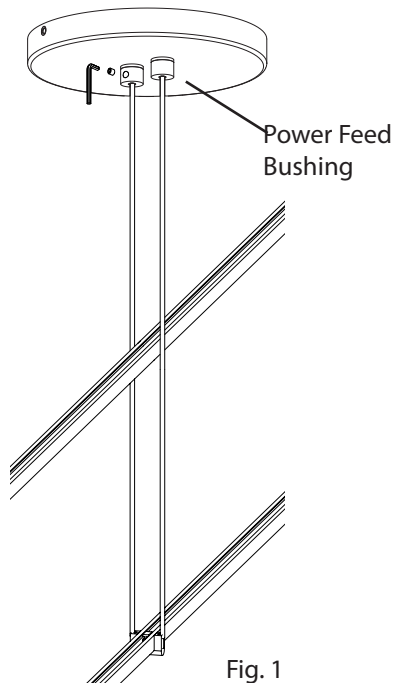

Fig. 1
1. Install the **Single Cord Power Feed Hanger** onto the **Power Bar**: pass the **Cord** through the Power Bar, tip the Hanger 45 degrees and insert the copper springs into the center of the Power Bar, then push the Hanger up while tipping it back up 45 degrees (Fig. 1).
1. Install **Double Cord Power Feed Hanger** to **Lower Power Bar** and connect to the **Power Feed** by inserting the exposed wires into the **Power Feed Bushings**. Secure by tightening the **Set Screws** with the included **Allen Key** (Fig. 1).